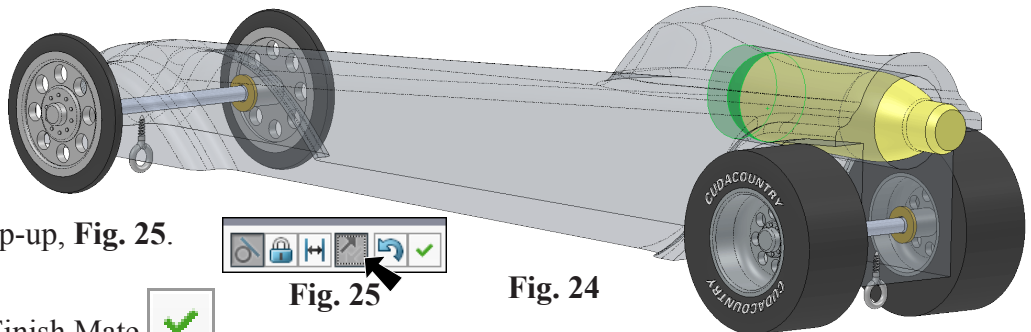

Fig. 24
Step 7. The cartridge should extend out rear of body, **Fig. 24**. If in opposite direction, click **Flip Mate Alignment**